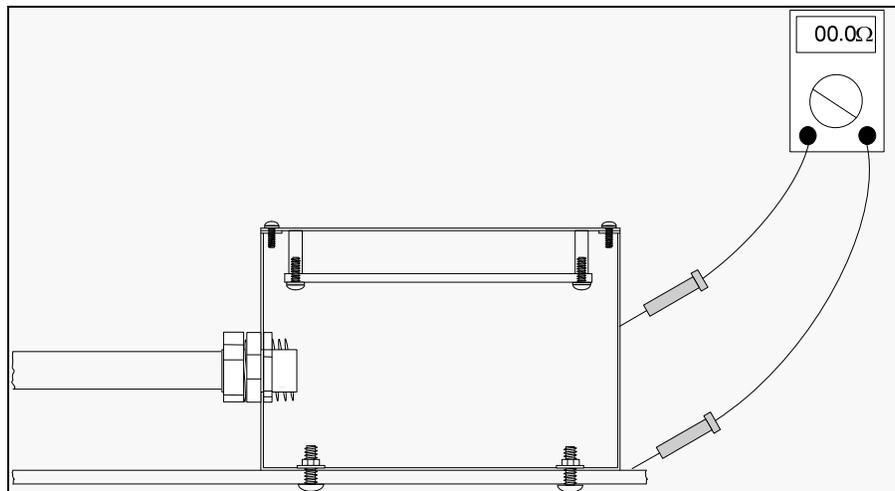

Figure 22 Continuity Testing - Mounting Surface to Enclosure
Step 1: Measure the resistance from the mounting surface to the enclosure as shown in **Figure 22** below.